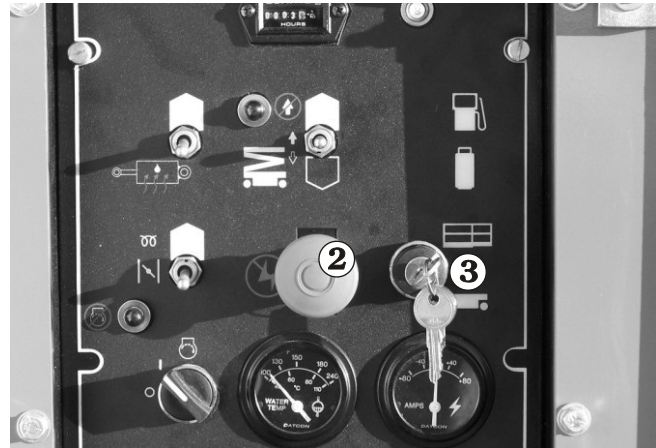

Figure 8.11
2. Set the Emergency Stop switch **2** to on (up) (see Figure 8.11).
3. Set the Ground/Platform Selector switch **3** to platform (up) (see Figure 8.11).